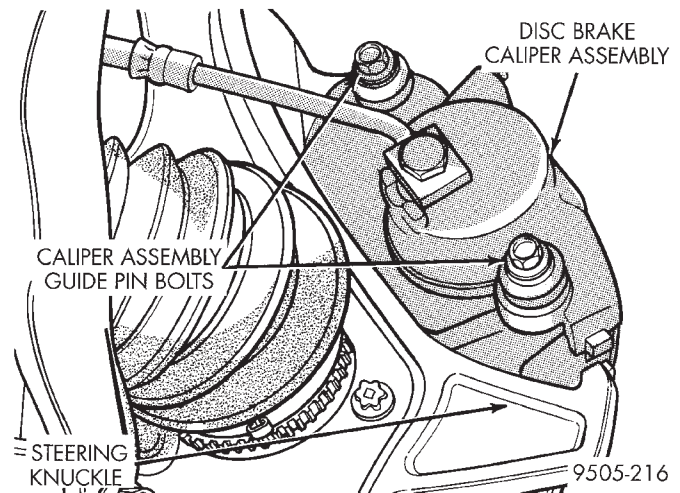

Fig. 44 Removing Caliper Guide Pin Bolts
(1) Raise vehicle on jackstands or centered on a hoist. See Hoisting in the Lubrication and Maintenance section of this manual.
(2) Remove front wheel and tire assemblies from vehicle.
(3) Remove the 2 caliper to steering knuckle guide pin bolts (Fig. 44).
(4) Install the brake caliper guide pin bolts (Fig. 44). Then tighten the guide pin bolts to a torque of 22 N·m (16 ft. lbs.).
(5) Install the wheel and tire assembly.
(6) Tighten the wheel mounting stud nuts in proper sequence until all nuts are torqued to half specification. Then repeat the tightening sequence to the full specified torque of 135 N·m (100 ft. lbs.).
(7) Remove jackstands or lower hoist. **Before moving vehicle, pump the brake pedal several times to insure the vehicle has a firm brake pedal.**
(8) Road test the vehicle and make several stops to wear off any foreign material on the brakes and to seat the brake pads.